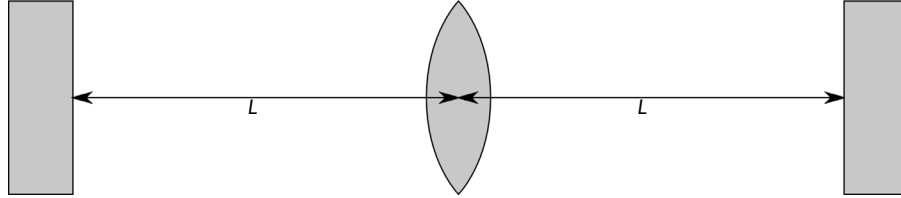

Figure 1: Optical layout of a laser cavity with a thin lens (not drawn to scale) at the center.
The laser cavity consists of two flat end mirrors and a thin biconvex spherical lens with focal length  $f = 0.5$  m. The mirrors are positioned at a distance  $L$  (SI unit: m) to either side of the lens as shown in Figure 1. A ray is released from the center of one of the mirrors, at a very small angle to the optical axis. The ray is traced for a predefined total computation time,  $T_0$  (SI unit: s), which is sufficient for it to be reflected a large number of times, at least several hundred reflections for the largest value of  $L$ .
- 5 Click the  **Zoom Extents** button in the **Graphics** toolbar. Compare the resulting geometry to Figure 1.